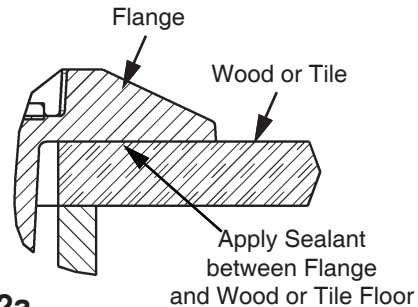
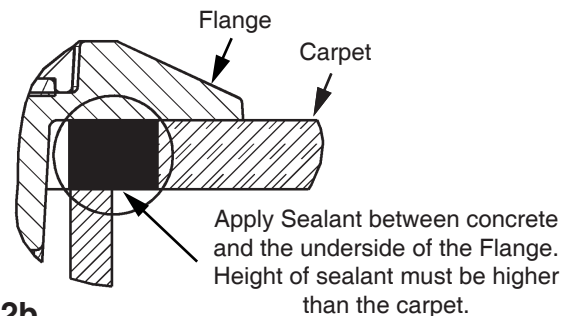

Figure 2a
Figure 2b
- 2) Apply clear silicone sealant as shown in Figure 2a for wood or tile floor covering or Figure 2b for carpet floor covering. Assemble Cover to Floor Box.